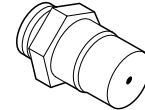

Figure 28
Step 8. Unscrew the orifice from the manifold and replace it with the one provided with the kit, #42 (0.0935) for natural gas units and (0.058) for propane (**see Figure 28**).